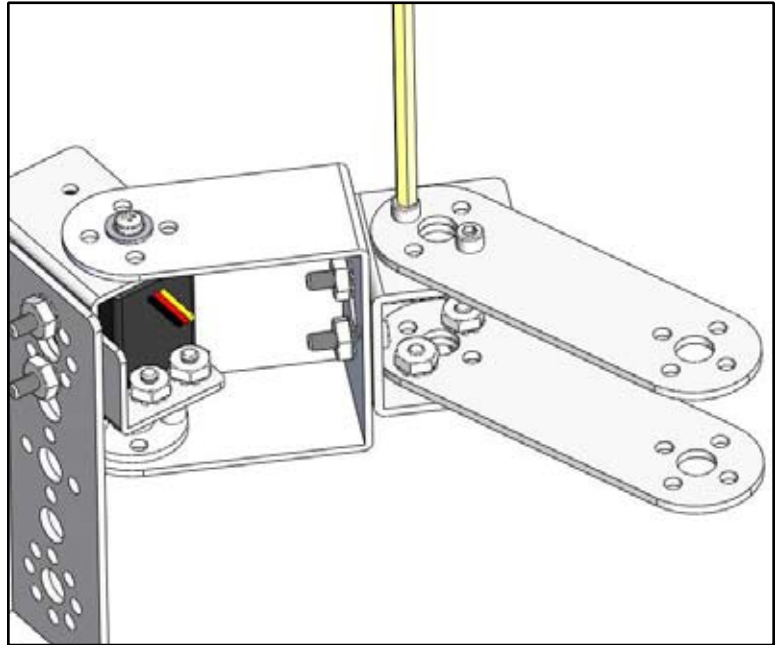

Figure D13
- 9) On the top of each side of one 32 mm channel piece, attach a flat bracket at a 45° angle toward the open side of the connected channel pieces (gripper arm) (Figure D13). Repeat this on the other 32 mm channel piece, but place the flat brackets on the underside of the 32 mm channel ends – this will compensate for the difference in height. Be sure to angle the flat brackets toward the other side of the gripper.